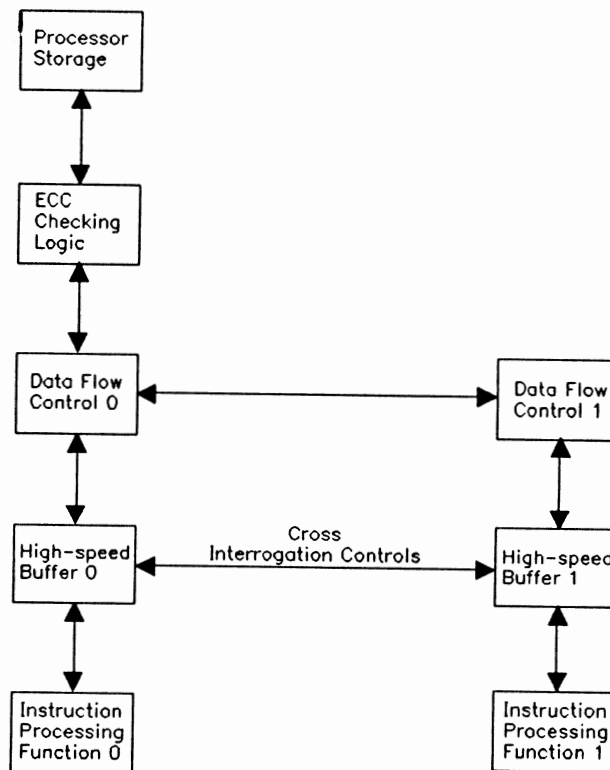

Figure 12. Data flow to and from processor storage via the high-speed buffers in a 4381 Model Group 14 or 3
The flow of data from each instruction processing function to and from processor storage via the high-speed buffers in a 4381 Model Group 14 or 3 is shown in Figure 12. One ECC checking function is shared by the two instruction processing functions. The data flow control logic provides a data path between (1) the ECC checking function and high-speed buffers 0 and 1 for data fetch/store operations from/to processor storage and (2) high-speed buffers 0 and 1 for interbuffer data transfers.